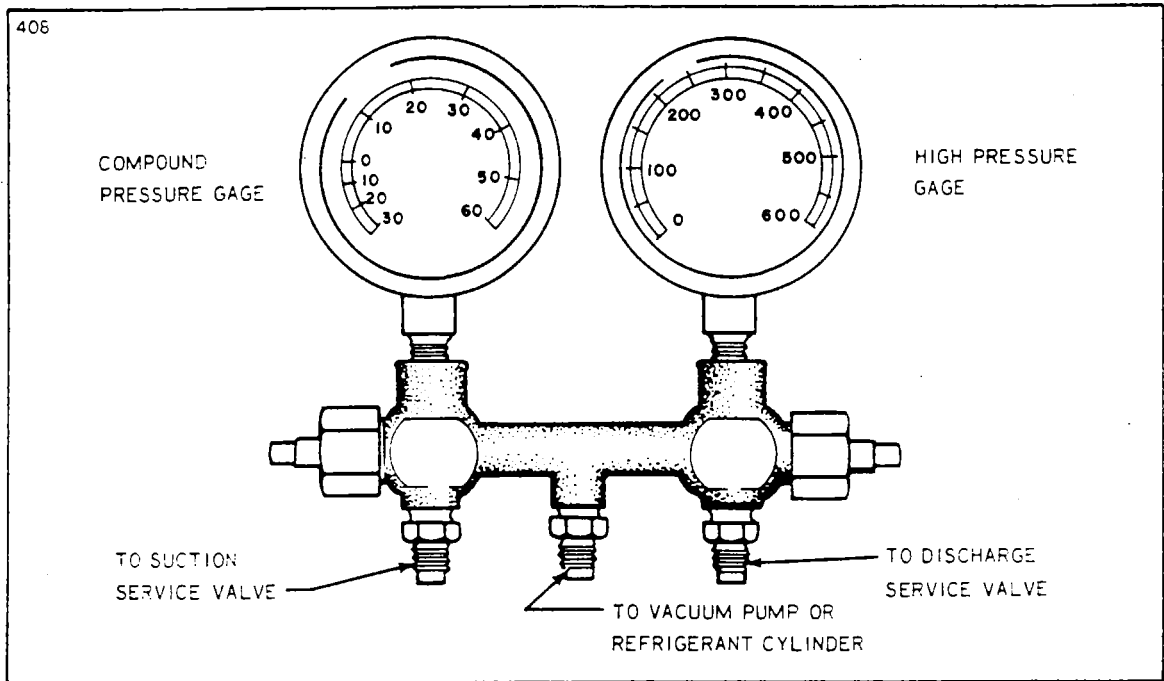

Figure 13-3. Test Gauge and Manifold Set
13-8. TEST GAUGE AND MANIFOLD SET. The proper testing and diagnosis of the air conditioning system require that a manifold gauge set be attached into the system. This set consists of two gauges mounted to a manifold. One gauge is a high pressure gauge used in the discharge side of the system. The other is a low pressure gauge used in the suction side of the system. The manifold is a device having fittings for both gauges and connection hoses with provisions for controlling the flow of refrigerant through the manifold. See Figures 13-3 and 13-4.
Cracking the hand valve, in the counterclockwise direction, opens the system to the middle service port of the manifold set. This is desirable only when it is necessary to let refrigerant out or into the system. Refer to Figures 13-3 and 13-4.
- c. The high and low manifold hand valves should be in the closed position. (Refer to Figures 13-3 and 13-4.)